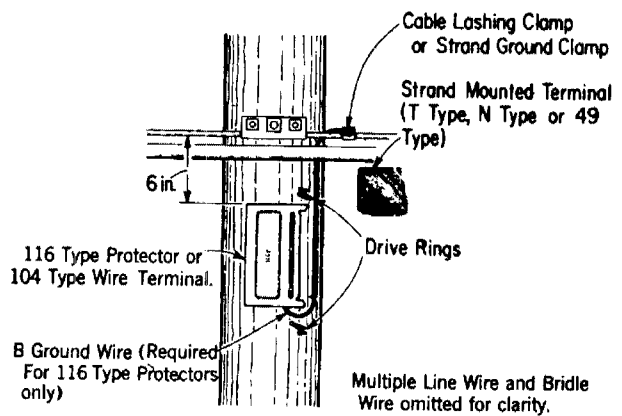

Fig. 15 — Pole With Strand-Mounted Cable Terminal (multiple line wire and bridle wire omitted for clarity)
5.01 The various types of 6-pair wire terminals or protectors should be located on intermediate cable poles as shown in Figs. 15, 16, and 17.